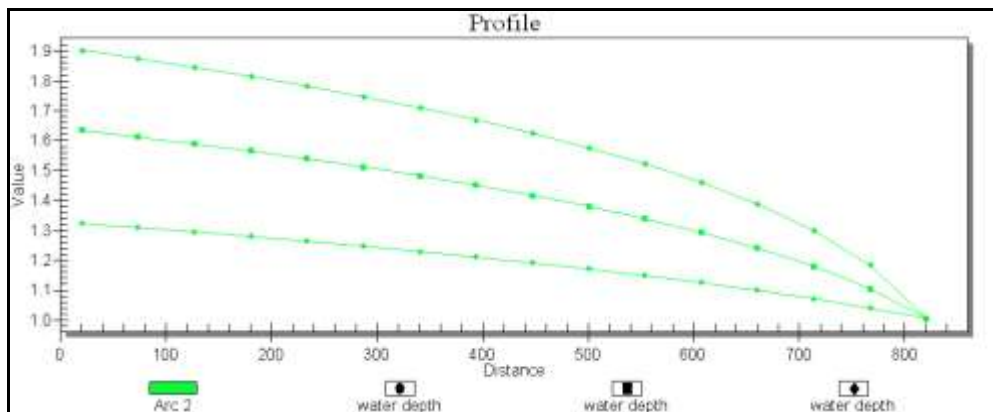

Figure 3 Water depth with varied roughness parameters.
9. Repeat steps 2-8 except change the n value to “0.065”, and save the file as “flumea3.sms”. The plot should now look like Figure 3.